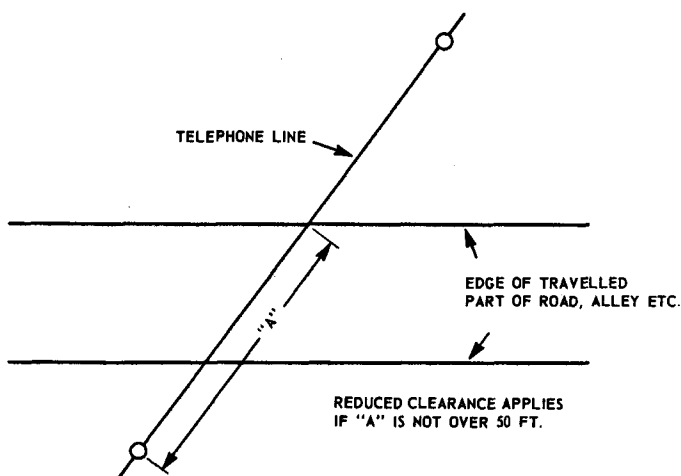

Fig. 1
1.04 Note that clearance requirements shown for wire overhanging the traveled part of public roads are considerably larger than the clearances required where no such overhang exists. Note also that clearances for wire crossing alleys, roads and driveways show one set of values for general use and a second somewhat lower set of values for use when one pole is located within 50 feet of the far edge as shown in Fig. 1.
1.05 Multiple drop wire must be installed with relatively large sags. Hence it will generally be advantageous to locate poles and wire runs so that the middle of the span will *not* be above the traveled part of the road, alley or driveway. This will often be the case at crossings when the far edge of the road, alleys, etc., is 50 feet or less from the pole. (See Fig. 1) When this condition exists, it may be possible to base the height of pole attachment on something less than 100 per cent of the midspan. The following table shows the percentage of midspan sag to be used in determining the height of pole attachment when the 50-foot criterion applies. This procedure should be ignored for spans less than 145 feet.